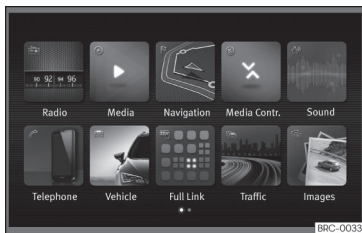

Fig. 41 Easy Connect: Main menu.
- Press the Infotainment button **(MENU)** and then the **Vehicle** function button >>> Fig. 41.